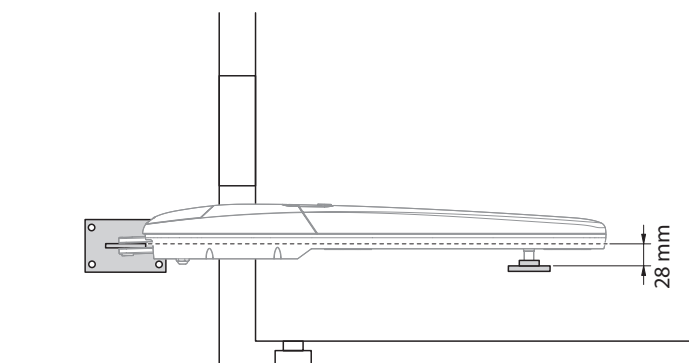

Fig. 4
**WARNING!** – Before fixing the rear bracket, make sure that the front bracket will be fixed to a solid position of the gate leaf; the front bracket will have to be secured at a different height than the rear bracket (**Fig. 4**).
02. Define the front bracket installation height in accordance with fig. 4;